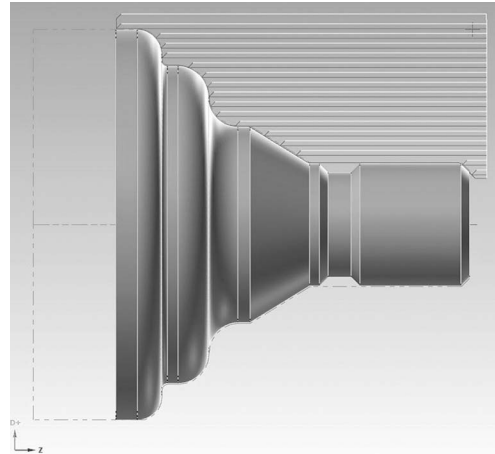

Figure 5-68 Rough OD Toolpath Display
- Press OK. The Rough OD toolpath will process and the result will be displayed, as seen in Figure 5-68.